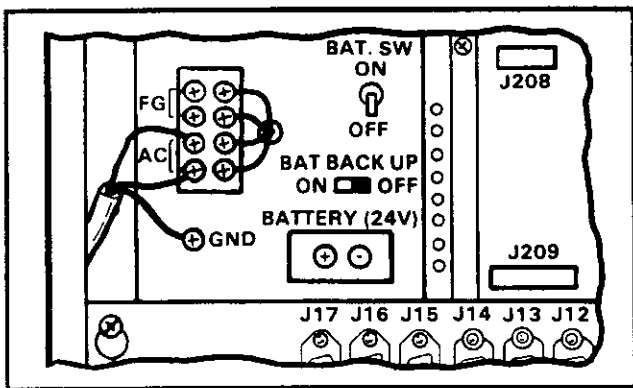

FIGURE 2—EARTH GROUND CONNECTION
04.41 The system requires a solid earth ground for proper operation. Failure to provide such a ground may lead to confusing trouble symptoms and, in extreme cases, to system failure. This ground connection is made at the **FG** or **GND** terminals on the rear of the power supply (Figure 2).